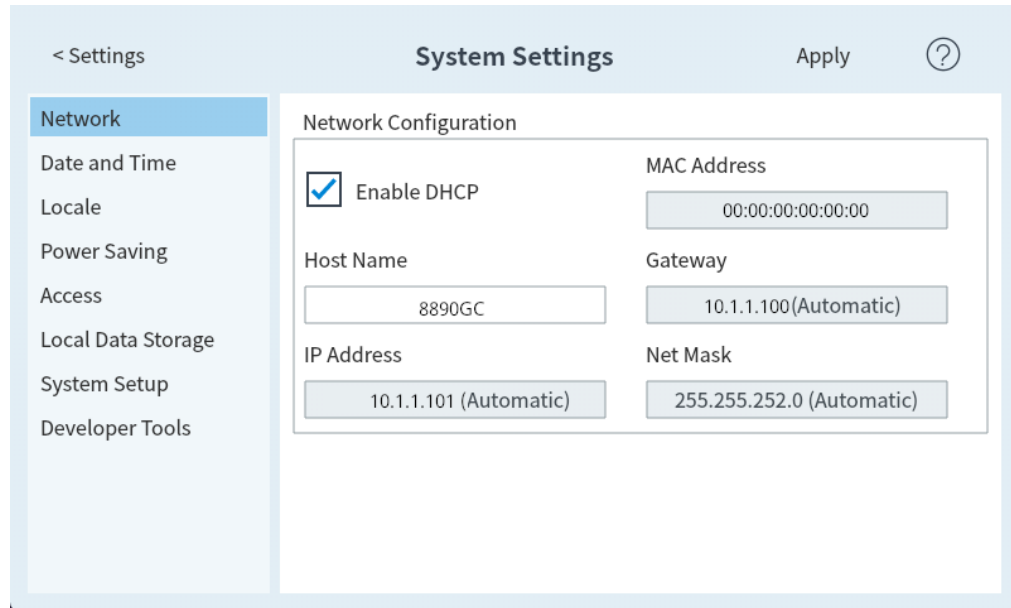

Figure 53. Network Configuration page
1. From the System Settings page, select the **Network** page selection button. The Network Configuration page appears. See Figure 53.